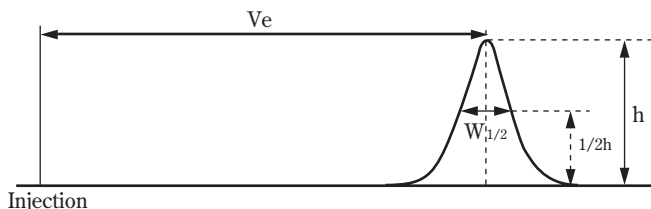

Fig.4 Method of Calculating the Number of Theoretical Plates
The number of theoretical plates of a column (N) is calculated by the half peak width method shown in Fig.4 and the following equation.